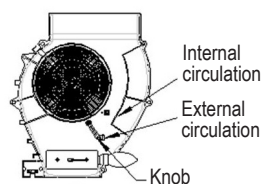

Fig. 4
- Adjust the position of the control knob to select the type of exhaust fumes (Fig. 4).